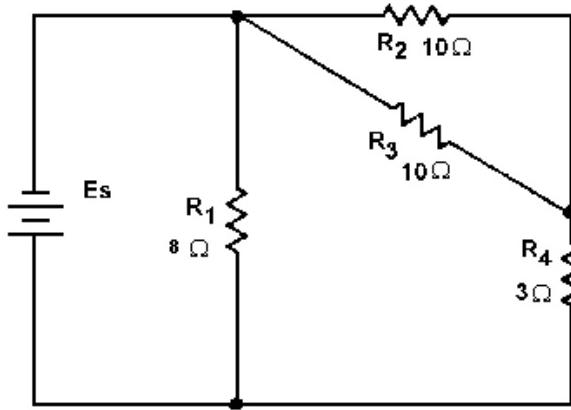

Figure 3-59.—Simplification circuit problem.
- Q43. What is the total resistance of the circuit shown in figure 3-59? (Hint: Redraw the circuit to simplify and then use equivalent resistances to compute for R_T)*